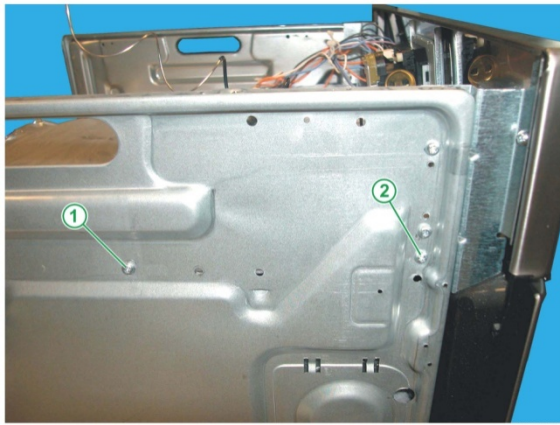

Fig. 12
14. Fix the new sheet metal controls protection with 4 4.2x8mm self-tapping screws using the 2 existing holes in the front part, and the new holes in the back part (see Fig. 12).